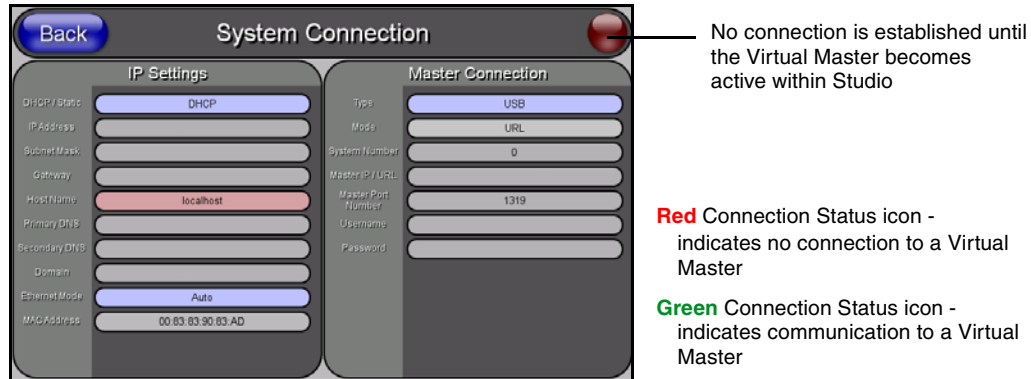

FIG. 33 USB System Connection page - using a USB Connection Type
4. Select **Protected Setup** > **System Connection** (located on the lower-left) to open the System Connection page (FIG. 33).